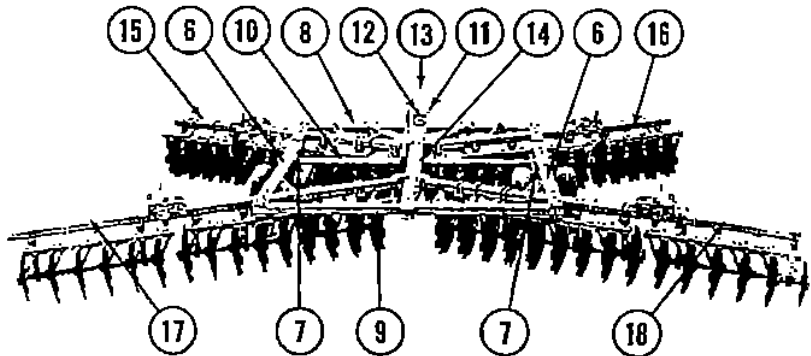

FIG. 15
5. Remove the bolts from both ends of the *Side Frame Bundle* (Item 6, Fig. 15). Spread the front and rear gang frame bundles (Items 2, 3, 4 and 5) by pushing the front gang frames forward and the rear gang frames towards the rear. Position the side frame members so that the wheel axle bearing (Item 7) is to the front and downward. Slide the open end of the side frame member over the front gang tube. Then slide the other end of the side frame over the rear gang tube. Close the front and rear bundle by pushing the front gang bundle backward and the rear gang bundle forward. Repeat this procedure on the other side.